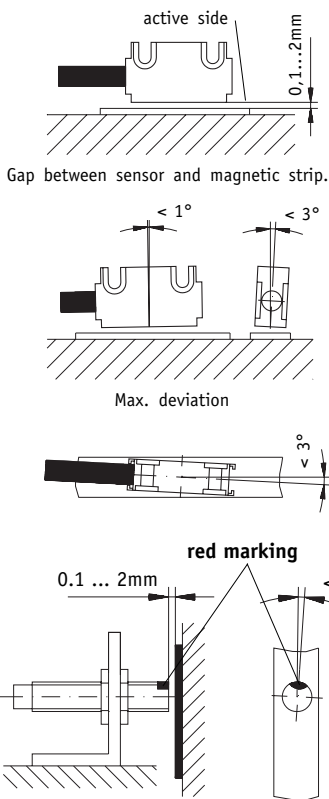

Fig. 9: Mounting of sensor
- When mounting the magnetic sensor, ensure that the gap between strip and sensor and the max. admissible deviation are maintained over the total measuring length! (see fig. 9)